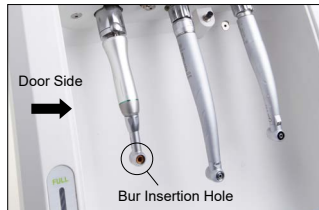

Fig.10
- 1) Insert the supplied Test Bur and lock chuck.(Fig. 10)